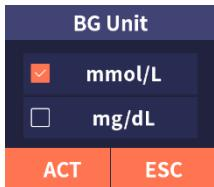

Figure 4.13
(1) Click "BG Unit" to open the setting interface (shown as Figure 4.13), select "mmol/L" or "mg/dL", then click "ACT" to save and exit, or click "ESC" to exit without saving.